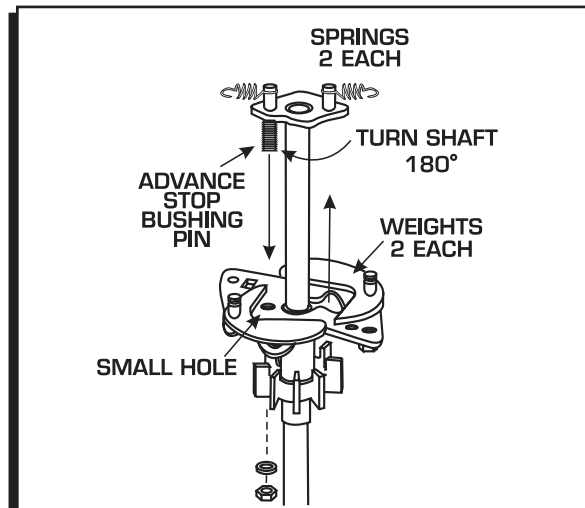

Figure 7 Locking Out the Centrifugal Advance.
5. Rotate the shaft 180° and insert the advance stop bushing pin into the small hole on the advance plate (Figure 7).